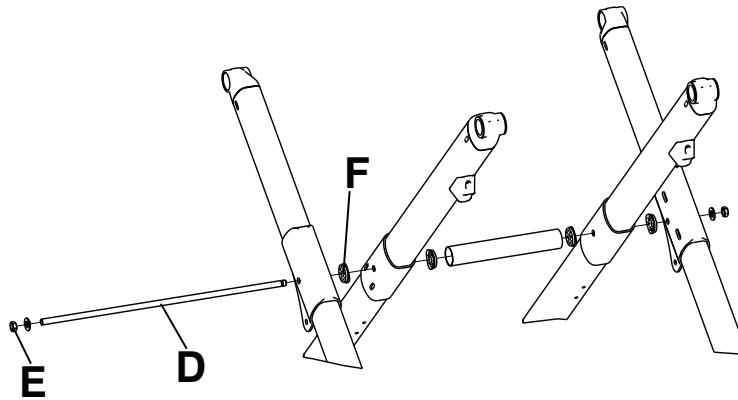

Figure 11 – Save the bearings
5. Using two 9/16" combination wrenches and a dead blow hammer, remove the base connecting rod (D) and centerlock hex jam nut (E).
**Note** - Save the bearings (F) that fall out (Figure 11).